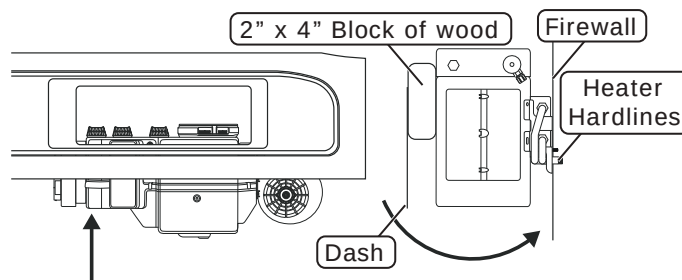

Figure 2
4. Install the defrost plenum using spring clips as shown in Figure 2, below.
5. Install the evaporator firewall bracket using (2) 1/4-20 x 1" serrated flange bolts and (4) #10 x 5/8" screws (See Figure 2, below).
6. Install a 1/4-20 full-threaded stud into the bottom hole on the evaporator firewall bracket, leaving a 1/2" of the stud protruding outward (See Figure 2, below).
4. Rotate/push the left end of the evaporator module up until the hardline ends and the 1/4-20 x 1 1/2" stud line up with the holes in the firewall (See Figure 2, below). **NOTE: Be careful positioning the heater hardlines. Forcing or jamming the hardlines against the firewall may loosen one or both of the fittings on the heater which could result in a leak. A 2"x 4" block of wood may be put between the dash and the evaporator module to keep it in place if necessary (See Photo 5, below).**
6. From the engine compartment, install (2) 1/4" nylon sleeve washers and (2) 1/4-20 x 3/4" serrated flange black bolts into the (2) open firewall mounting holes (See Photo 5, below). **NOTE: Do not fully tighten the bolts at this time.**